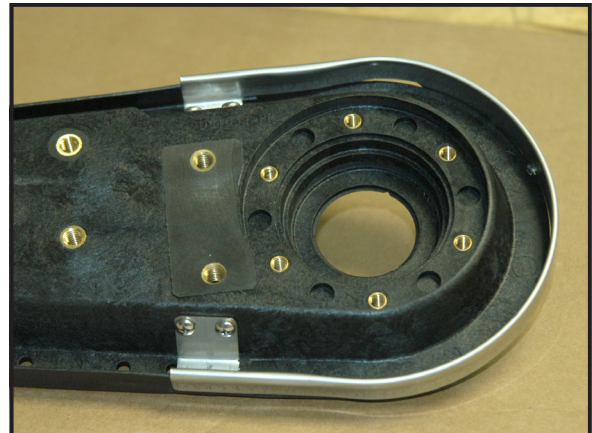

Figure 22
11. Inspect the completed assembly (*Figure 22*).